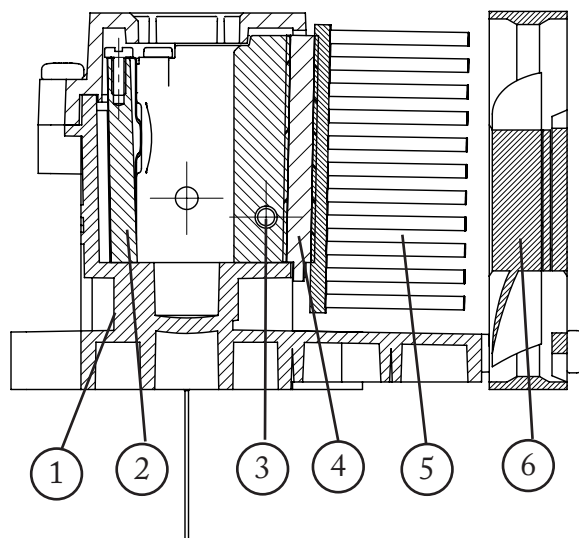

Figure 2.8
In Figure 2.8 a cross-section of the optical bench is shown, with the thermostatisation system. The cuvette holder (2) is inserted in the optical support (1). One of the sides of the Peltier cell (4) is touching the cuvette holder (2). On the other side is the radiator (5) and the fan (6). The temperature sensor (3) is housed in the cuvette holder.